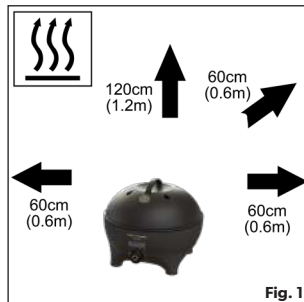

Fig. 1
- Do not use the barbecue within 60cm of combustible materials. Minimum safe distances are: Above the barbecue 1.2m. At the rear and sides 60cm (See Fig. 1).